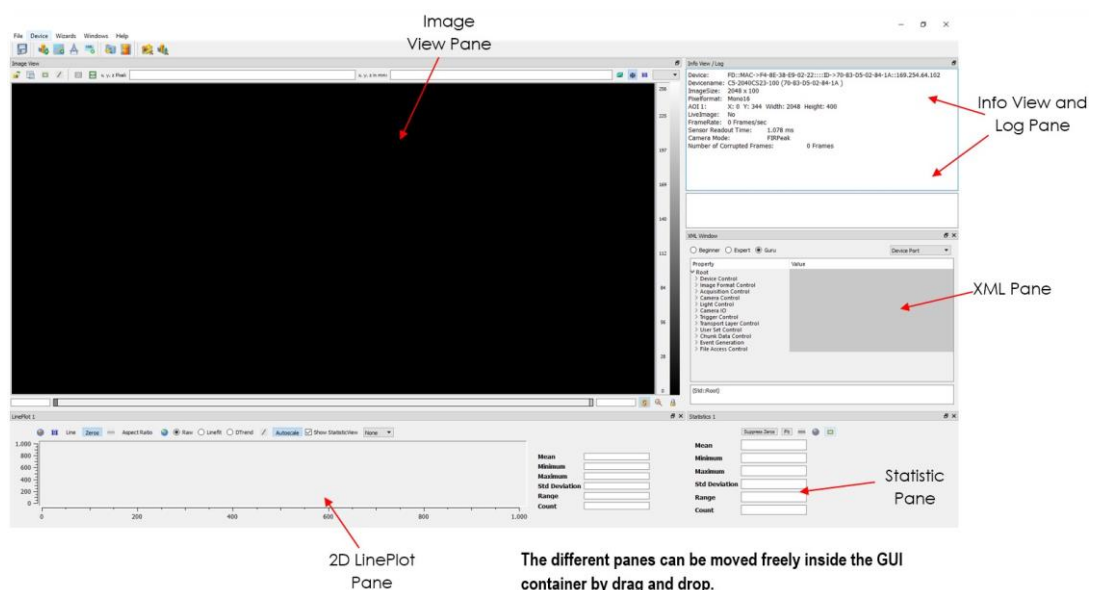

Figure 7: cxExplorer panes
- To change the camera settings we recommend to use the XML pane (see Figure 7) and not the wizards to configure the camera.
Set these parameters in the XML pane (see Figure 7).